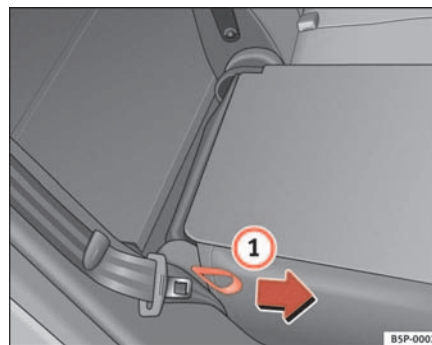

Fig. 97 Folding or opening the rear seat backrests
- Pull the loop on the side of the seat ⇒ fig. 97 ①